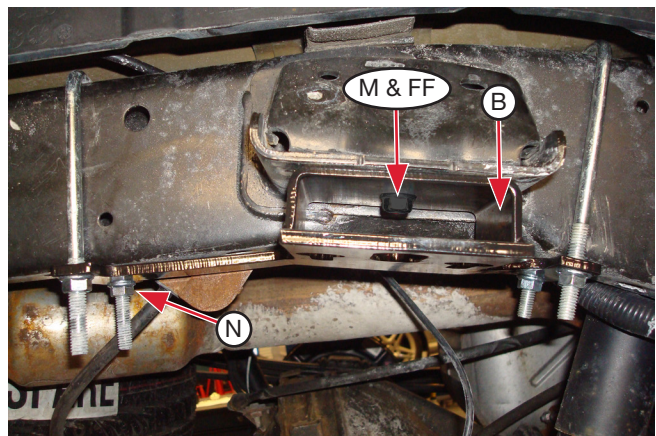

Fig. 9
2. Using a long socket, insert the M8 flat washer (FF) on an M8 button-head cap screw (M) through the passenger's (right) side upper bracket (B). Position the upper bracket under the jounce bumper bracket while inserting the U-bolts through the mounting holes. Install the M8 bolt into the jounce bumper mounting hole and tighten the bolt finger-tight. Tighten U-bolts finger-tight using the 3/8"-16 serrated flange nuts (N) (Fig. 9). Torque the M8 button-head cap screw first to 15 lb.-ft. (11Nm), then tighten the 3/8"-16 serrated flange nuts evenly to 15 lb.-ft. (11Nm). Repeat for the driver's (left) side.